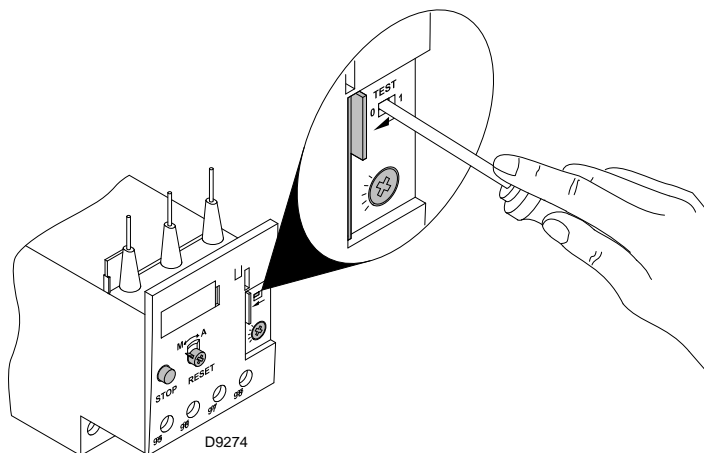

Fig. 29
- To test the thermal relay, insert a screwdriver in the window “TEST” (Fig. 29) and move it in the sense of the arrow (towards right).